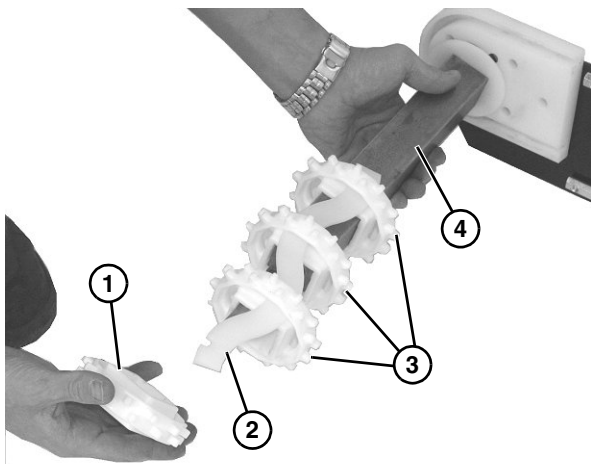

Figure 36
- Slide entire sprocket assembly slightly outward, and remove the first sprocket (**Figure 36, item 1**) off the drive spindle and alignment bar (**Figure 36, item 2**).
- Remove remaining sprockets (**Figure 36, item 3**) off the alignment bar as you slide entire assembly off the drive spindle (**Figure 36, item 4**).